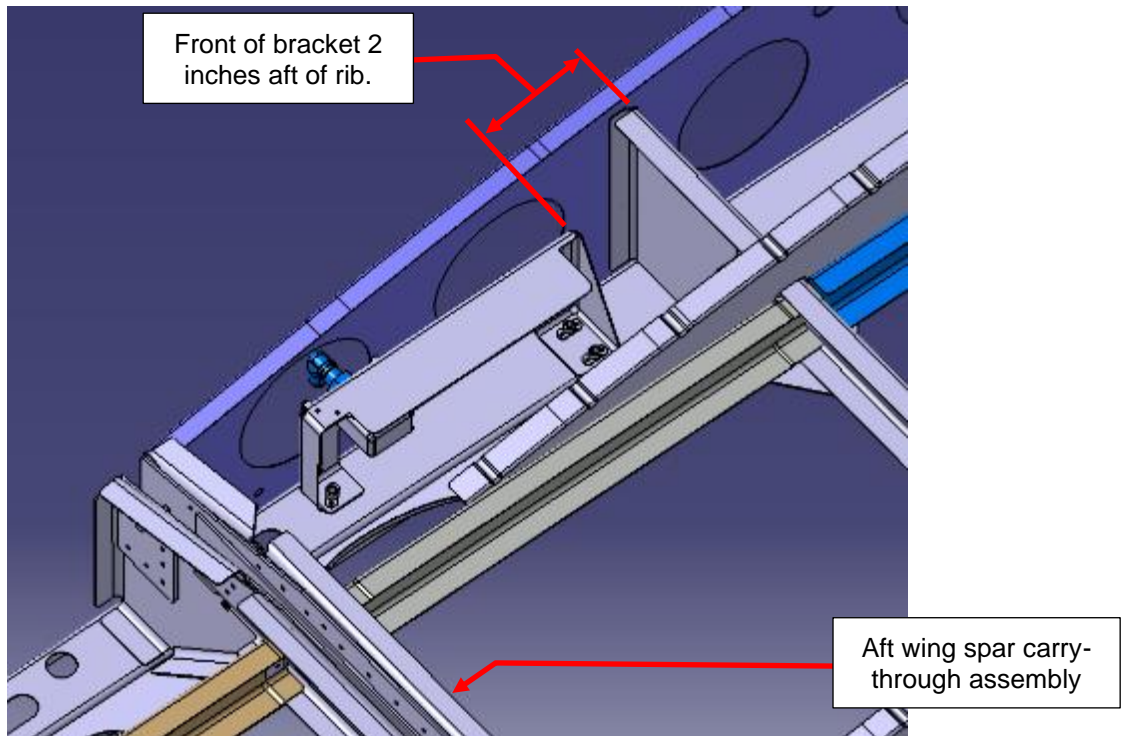
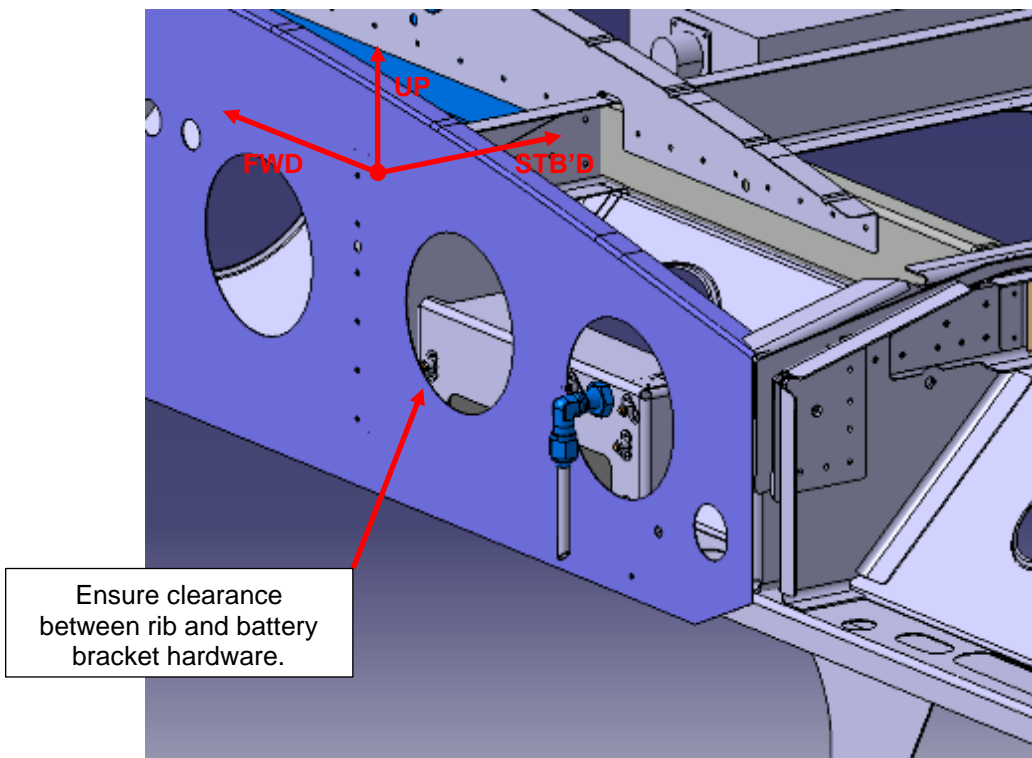

Figure 10 – Battery Bracket Installation
Figure 12 – Vent Installation
13. Test fit the bracket in port wing root as shown in Figure 10. Ensure clearance between the outboard fuselage wing root rib and the bracket nut plates and screw tails (Figure 12). Mark and drill screw holes.
17. Fit the battery vent (Item 62) using the sleeve and nut (Item 70 and 69). Direct the vent opening aft as shown in Figure 12. Carefully open and close the rear cabin door while monitoring the gap between the vent and the door. If required, the vent may be shortened to suit, however, the highest part of the vent opening must be at least 0.040" below the lower surface of the grommet.
27. Remove the heat shrink enclosing the EL Inverter Assy. Refer Figure 12, Using the wired connector supplied with the UMA Electro-Luminescent Light Strip, solder in the wire blue and violet wires to one of the + and ip connections. Inverter Blue and violet wires are to be twisted at least 8 turns per foot (1 turn per 38mm). Remove flux and apply non-acetoxy (neutral cure) RTV over the solder joint to support the wires.